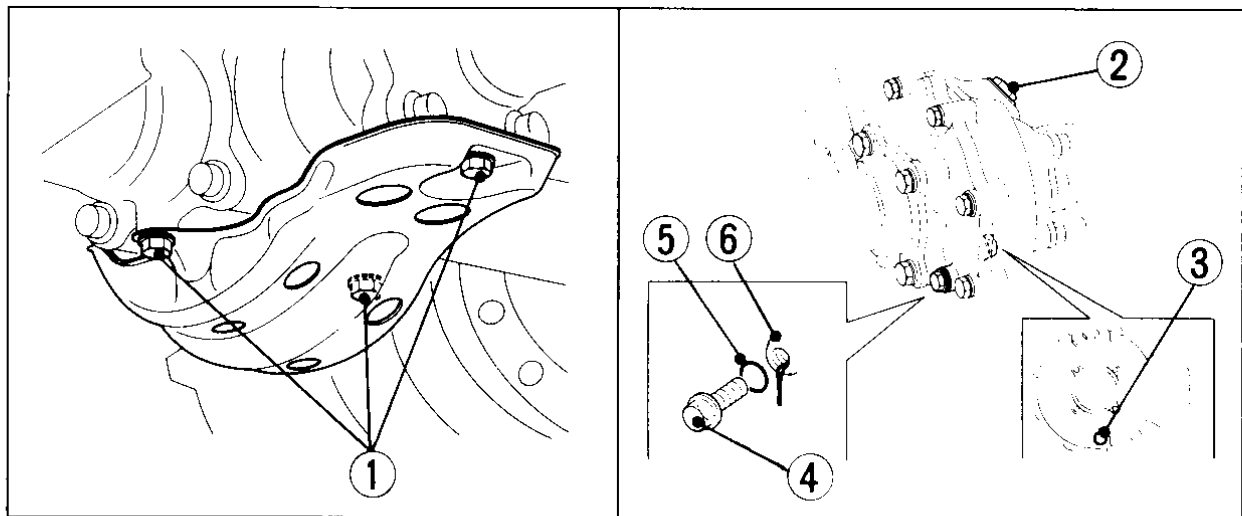

Fig. 4-14
1. Remove the skid plate by removing the bolts (Fig. 4-14).
3. Remove the oil filler cap (2) and the drain plug (3).